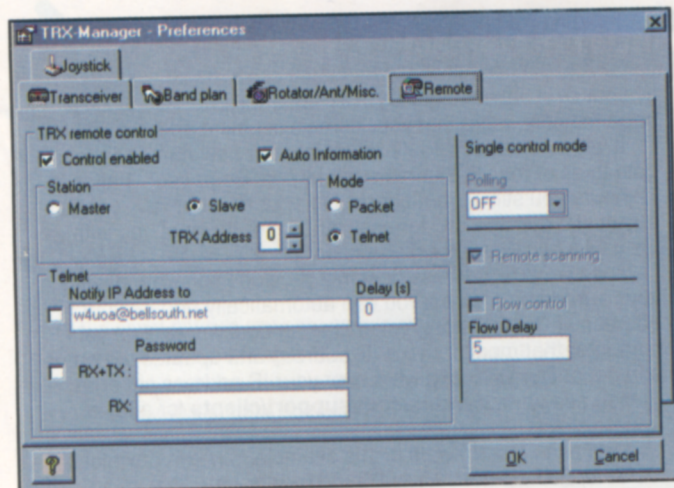

Figure 2—Setup window for *TRX-Manager* showing how to select the Remote Control functions.
1. In the "Parameters-Preferences-Transceiver/Rotator-Remote" dialog, you can check "Notify IP address to" and you can also specify a delay in seconds. (See Figure 2.) *TRX-Manager* then sends the slave's IP address to the specified e-mail address. While you are working at the master, you can check your e-mail remotely and determine the slave's current IP address. This, of course, presumes that the IP address has not changed during the time between when the slave sends the e-mail and when you check your e-mail at the master.